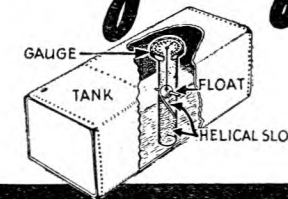
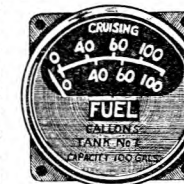

Fig. 1.
Fig. 2.
The modern electrical variable-resistance instruments are a logical development of the simple rotating-float type shown at Fig. 1. The float moves in a tube which has a helical slot. As the float rises or falls it is twisted round by the two pins which move in the slot. This rotating motion is translated by a pointer to a dial, and records the position of the float, which is the fuel level. This type is usually embedded in the wings in such a position that the pilot can see it from the cockpit.
The electrical variable-resistance type of instrument shown at Figs. 2 and 3 is a development of Fig. 1. In big aircraft a separate instrument is used for each fuel tank, and all the instrument dials are grouped on a big panel somewhere in the cabin. A single switch actuates them all. When the pilot wishes to know his fuel quantities he presses the switch A and all the needles record their various quantities. What happens when the switch is pressed on is this: The first movement of the switch (A) makes a circuit with the electro-magnet (E). This pulls the clamping-bar (C) away from the metal float (F), causing the float to drop to the fuel level. By this time the switch has been pressed in farther. This breaks the first circuit with the magnet and brings in the second circuit connect-